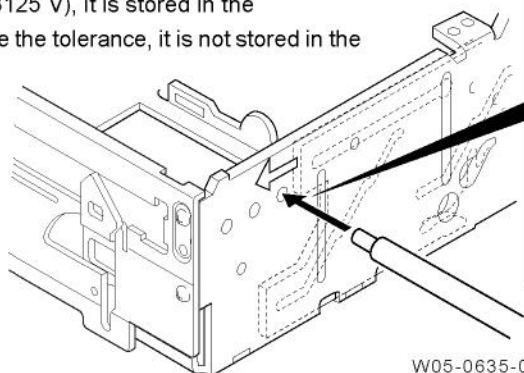

Fig. 1 LPS Adjustment
- (1) Remove all discs from the product.
- (2) Enter the mechanism test mode.
- (3) Tap the "Preset 6" key on the H/U for 3 times or more.
- (4) Press and hold the "DISC DOWN" key on the H/U.
- (5) To set the standard position of the mechanism, inset the test pin (W05-0635-00) into the 3rd stage. (See figure 1 below.)
- (6) With the test pin left inserted, press and hold the "DISC UP" key on the H/U.
- (7) With the test pin left inserted, tap the "Preset 4" key on the H/U.
- (8) When the operation is executed correctly, the buzzer generates a beep and the mechanism moves to the transport position. The buzzer generates 2 beeps after completion of the movement.
- (9) If the operation is not executed correctly, it stops and the buzzer generates 3 beeps.
- (4) Tap the "Preset 2" key on the H/U once.
- (6) With the test pin left inserted, tap the "Preset 2" key on the H/U once.
- (7) When the operation is executed correctly, the buzzer generates a beep and the mechanism moves to the transport position. The buzzer generates 2 beeps after completion of the movement.
- (8) If the operation is not executed correctly, it stops and the buzzer generates 3 beeps.